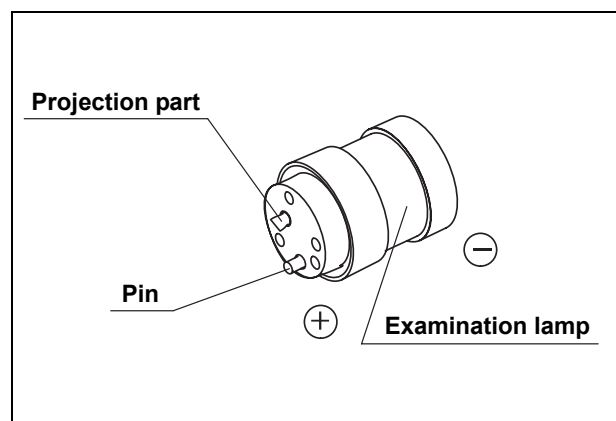

Figure 6.1
- When disposing of the used lamp, make sure to cut the projection part on the “+” side of the examination lamp by using a nipper and discharge the internal gas (see Figure 6.1). Otherwise, the glass could break due to the high internal pressure of the lamp.